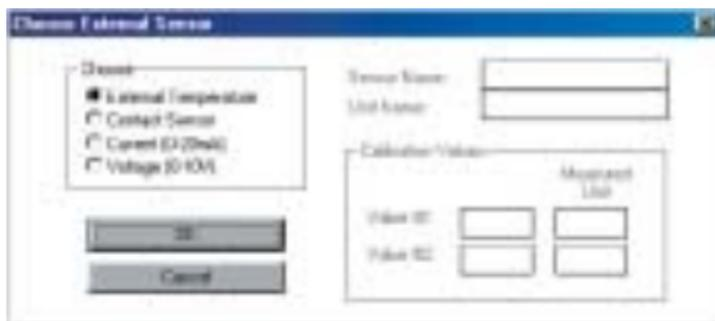

fig. 4
1. Select the small rectangle near the external sensor icon (fig. 4).